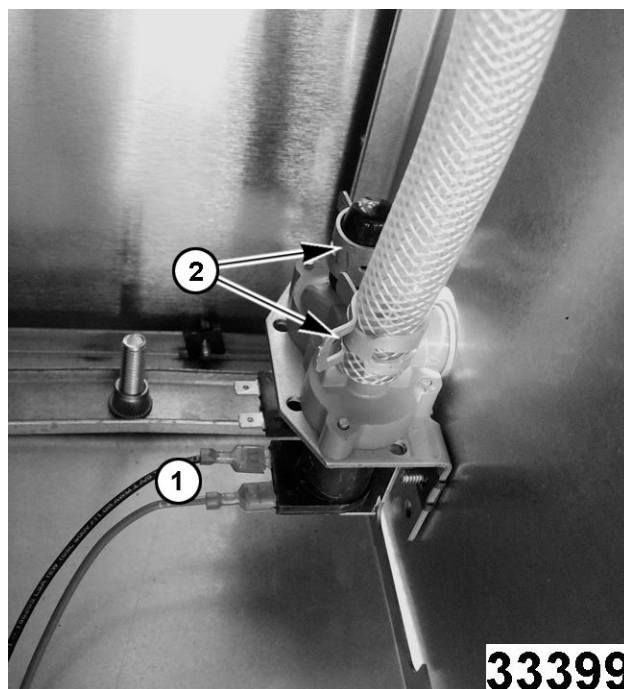

Fig. 51
3. Note and disconnect wires (1, Fig. 51).
4. Disconnect hose and cap clamps (2, Fig. 51) from outlet ports.